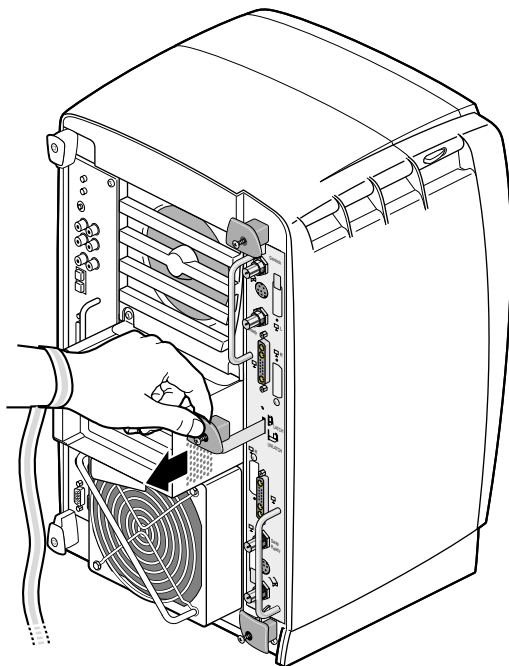

Figure 5-3 Unlatching the Dual Head XIO Module
2. Grasp the center plastic knob and pull until the Dual Head XIO module latch protrudes about an inch (2.5 cm) from the chassis, as shown in Figure 5-3.